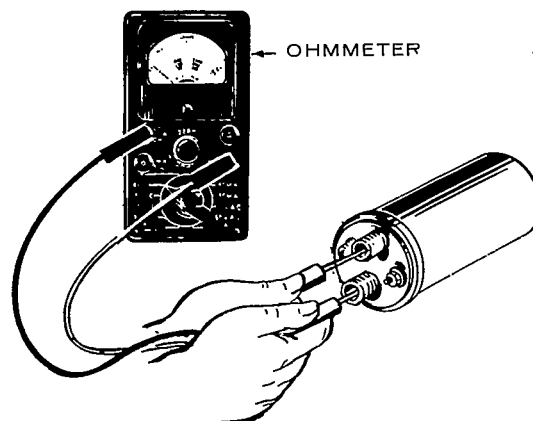

FIGURE 26. COIL TEST
3. Change resistance setting on ohmmeter. Place ohmmeter leads inside of spark plug cable holes (Figure 26). Secondary resistance should read 14,000 ( $\pm 10\%$ ) ohms @  $70^\circ$  F.